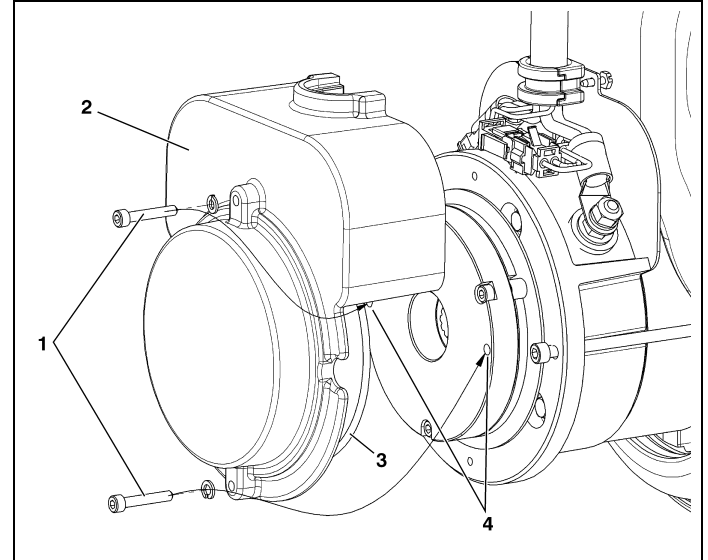

Figure 4-17. Brake - Manual Disengage.
(See Figure 4-17.)
3. Remove the **two cover bolts (1), cover (2), and cover o-ring seal (3)** from the back of drive motor unit.
4. Insert the cover bolts into the **two disengage holes in the brake housing (4)**, see Item 4 in Figure 4-17., Brake - Manual Disengage.